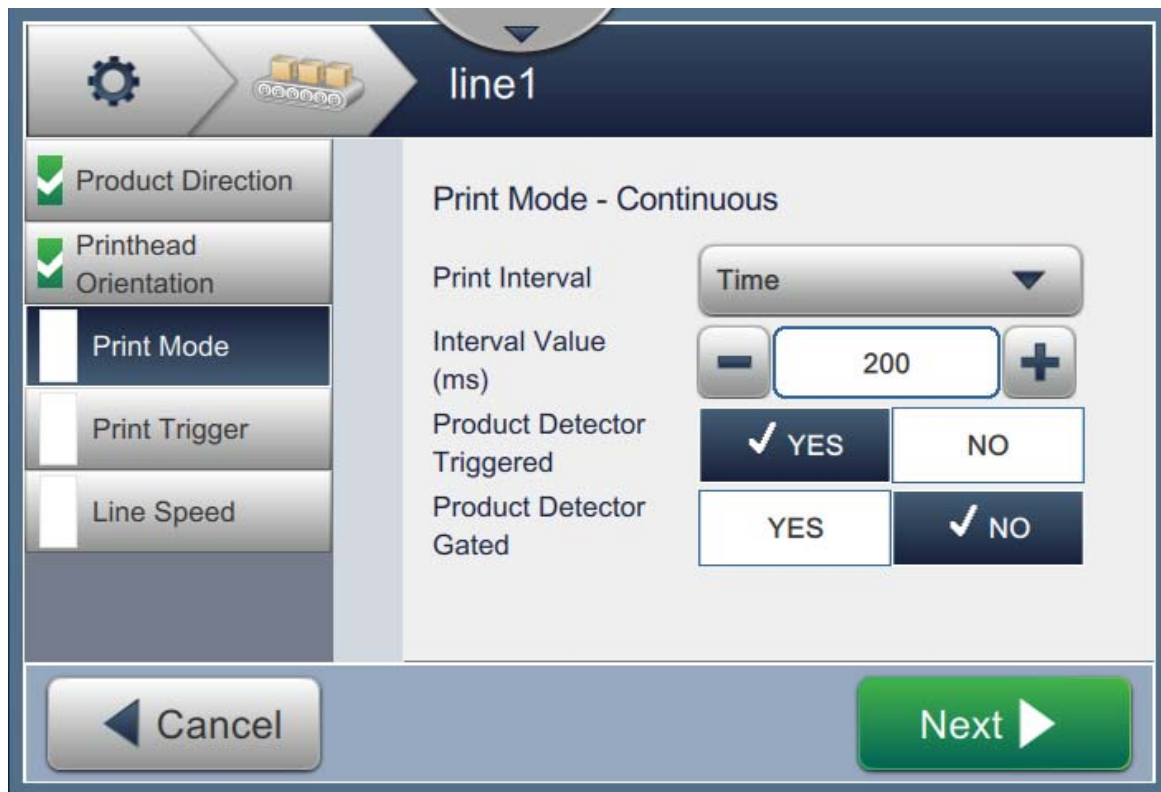

Figure 6-31: Print Mode - Continuous
2. Change the parameters in the Settings screen. Touch the  button to set the mode as shown in Figure 6-31.